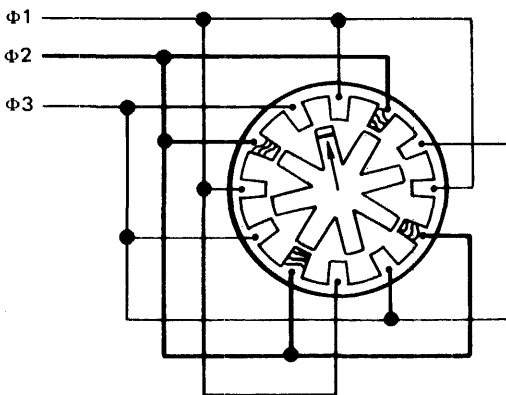

Figure 15 Position 2 (Trk 01)
3.2.3 Figure 15 shows the stepper motor with phase 2 of the stepper control logic active. Phase 2 is applied to the stator windings at 30° , 120° , 210° , and 300° . This causes the four rotor teeth closest to those windings to move and line up with the stator windings. The result is a 15° turn of the stepper motor lead screw.